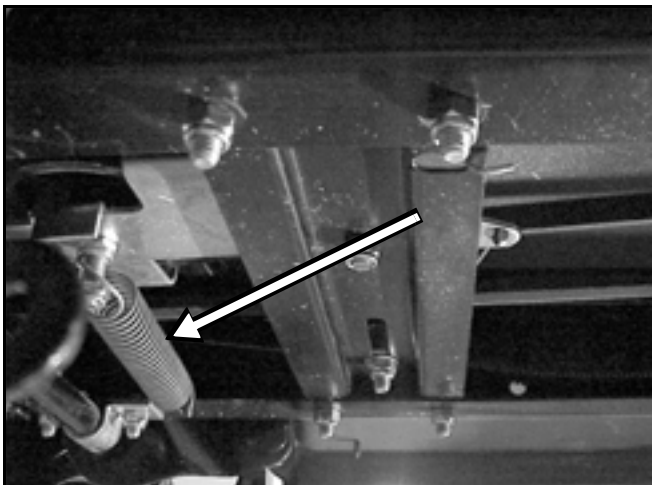

Figure 64
10. Reinstall the idler spring on bolt holding the idler pulley to the idler assembly (Figure 64).